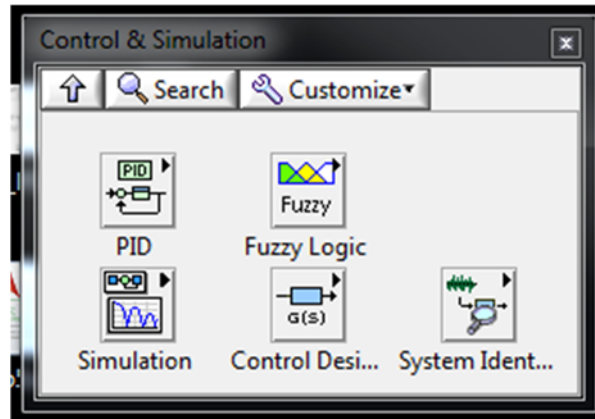

Figure 4 - Pinned Control & Simulation menu
- Right click in the Block Diagram window to pull up a list of available functions. Then click the double arrow at the bottom expand the menu. Select Control & Simulation from the menu and click the pushpin icon on the menu that pops out. This will "pin" the menu to your desktop so you can access it more easily. Once it is pinned, it should look like the window in Figure 4.
- LabVIEW does not have a Triangle wave generator. However, a triangle wave can be created by multiplying a sawtooth wave and a square wave. The Signal Generator blocks are in Simulation menu of Control & Simulation menu of Figure 4. Drag two Signal Generator blocks in to the Control & Simulation loop.